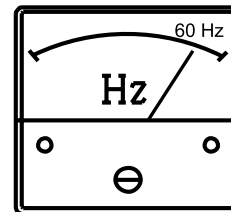

Figure 43. Frequency Meter
8. The generator's frequency meter (Figure 43) should be displaying the 60 cycle output frequency in **HERTZ**.